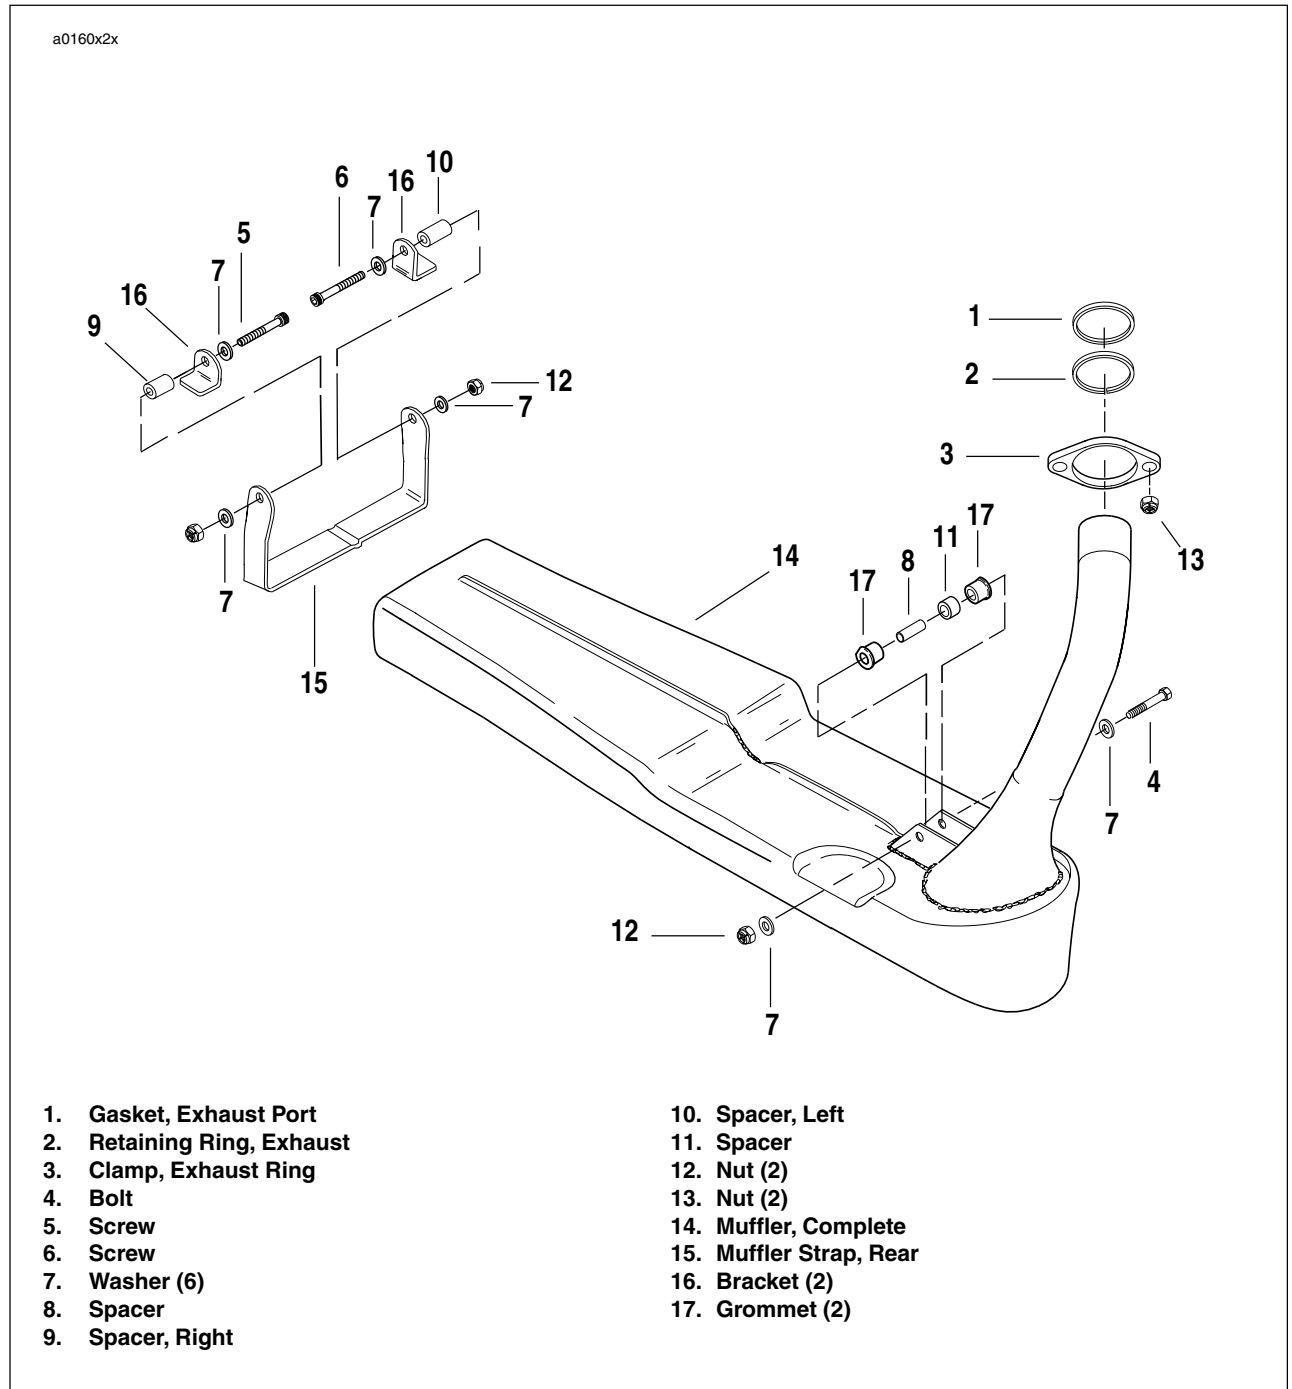

Figure 2-93. Exhaust System Assembly
1. See Figure 2-93. Remove fasteners, washers, spacers and brackets on rear muffler strap.
2. Remove exhaust header fasteners (13).
5. Remove retaining ring (2).
6. Remove exhaust header clamp (3).
7. Remove and discard exhaust port gasket (1).
1. See Figure 2-93. Install new bushings and spacer onto front muffler support hole (8, 17, 11).
2. Install header clamp onto exhaust (3).
3. Install retaining ring oriented 90° from exhaust studs (2).